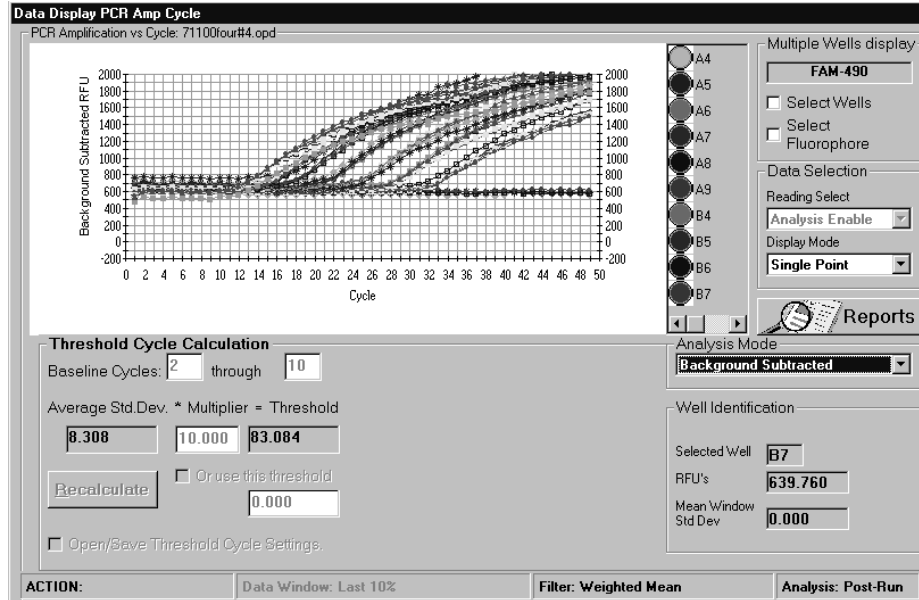

Fig. 7.2. Background Subtracted Plot.
- Data are displayed one fluorophore at a time. Choose the active fluorophore by first clicking Select Fluorophore in the top right corner of the PCR Quantification window (Multiple Wells display, Figure 7.2) and then selecting a fluorophore from the list box which appears in the lower right-hand corner (Figure 7.3).